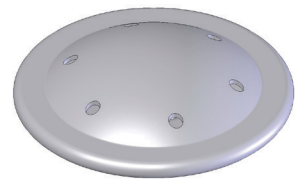

FIG 15-3
3. With the sprayhead removed, insert the delimiting spring (provided) all the way into the sprayhead tube. When inserted properly, no more than two inches of spring should be visible. Saw back and forth five or six times. FIG 15-3. **NOTE** – In hard water areas, this may need to be done daily. It will help prevent liming problems in the brewer and takes less than a minute.